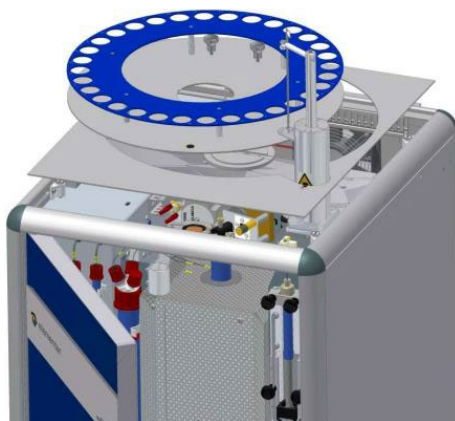

Figure 12. The removal of the cover plate and the carousel. Image by: Elementar Analysensysteme GmbH.
- 3.8.3 Unscrew the knobs at the top of the carousel. Remove the carousel and cover plate (Figure 12).
- 3.8.4.3 Remove the solids mode ball valve from the top of the combustion tube using careful back-and-forth motions (Figure 12).
- 3.9.2.1 Remove the cover plate and carousel from the analyzer (Figure 12).